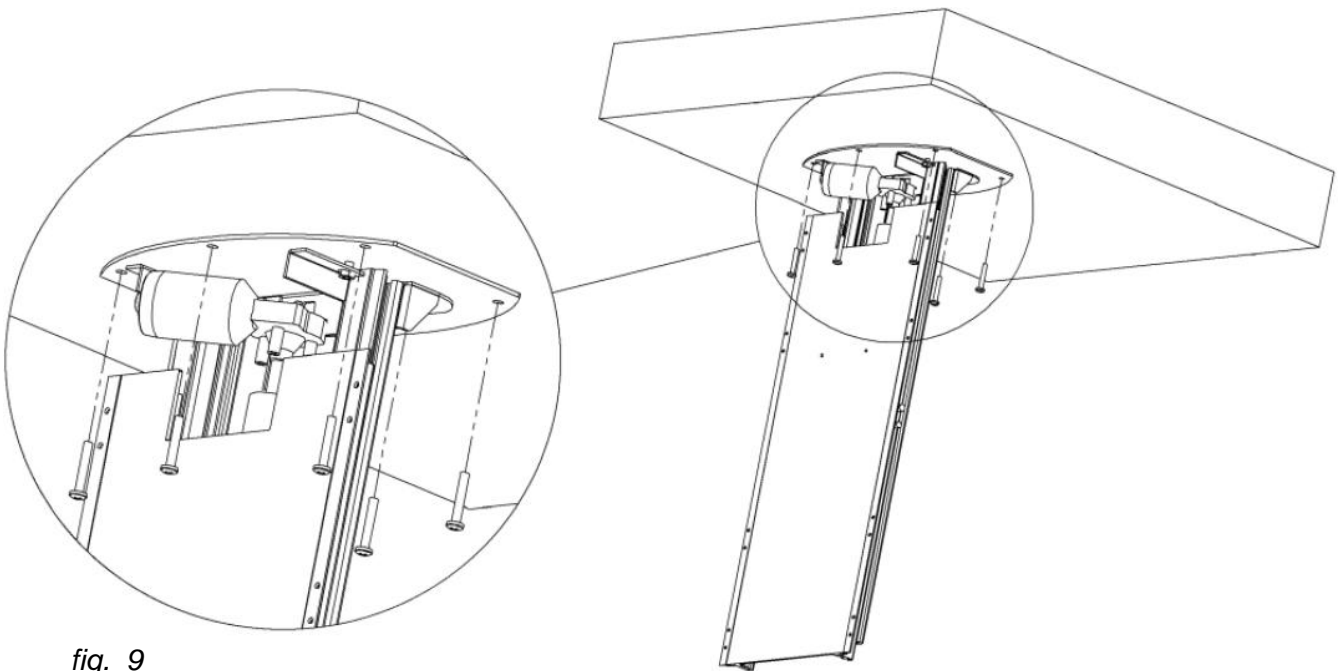

fig. 9
- Attach the lift to the ceiling (fig. 9).